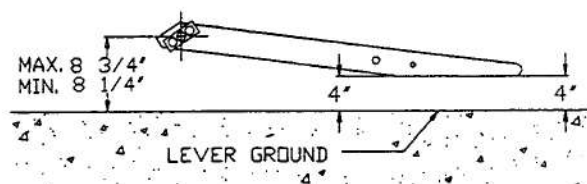

FIGURE 14
- f) Slide the male hitch under the subframe. Lift the rear section with three holes, aligning with the subframe hole until the middle hole in the male hitch is 8 1/4" to 8 3/4" from the ground (refer to figure 14). Mark the hole on the male hitch that most closely lines up with the subframe hole at this position for future installation.